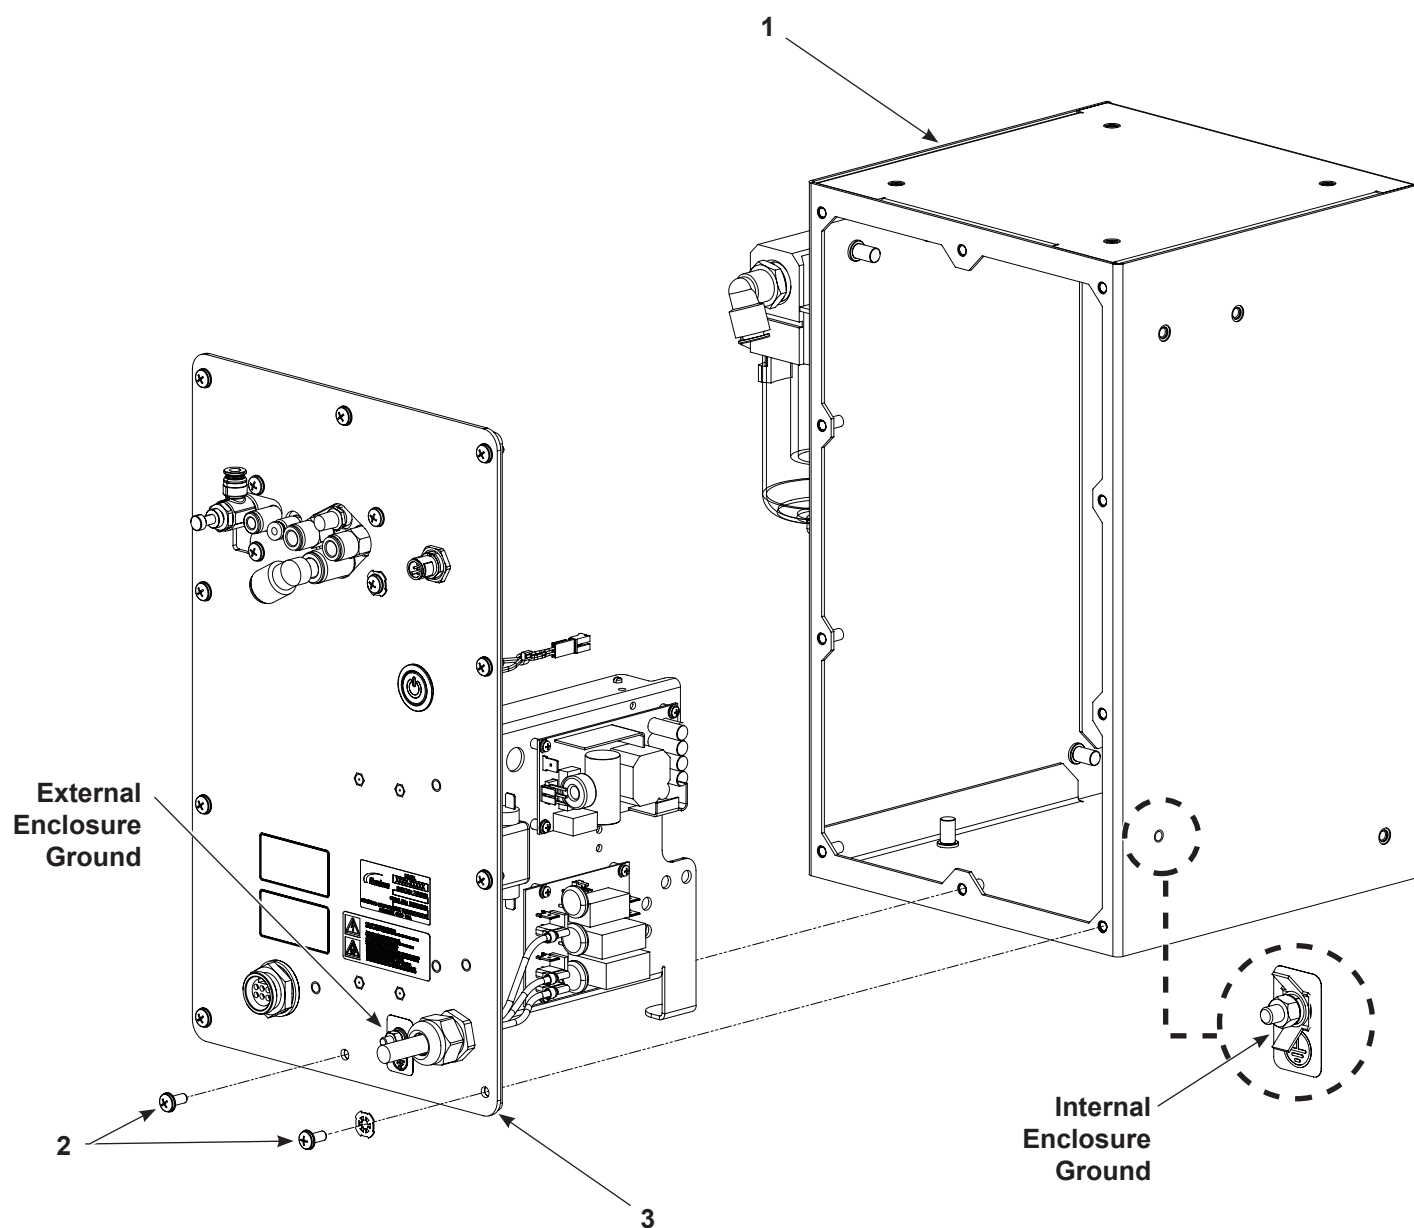

Figure 7-2 Panel Removal
3. See Figure 7-2. Remove the ten screws (2) securing the panel assembly (3) to the enclosure (1).